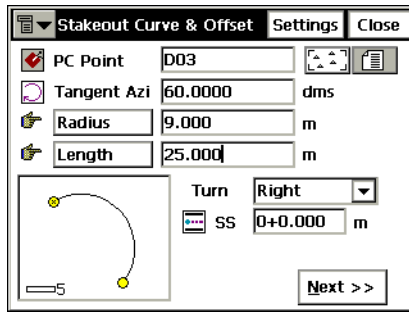

Figure 7-29. Stakeout Curve & Offset
2. In the *Stakeout Curve & Offset* screen (Figure 7-29 on page 7-20) set the parameters of the known curve: the Point of Curve (the starting point of the curve), the azimuth of the tangent of the curve at the PC point, the radius parameters of the curve, the length parameter of the curve, the turn value of the curve, and the starting station (chainage) of the line. Tap **Next**.